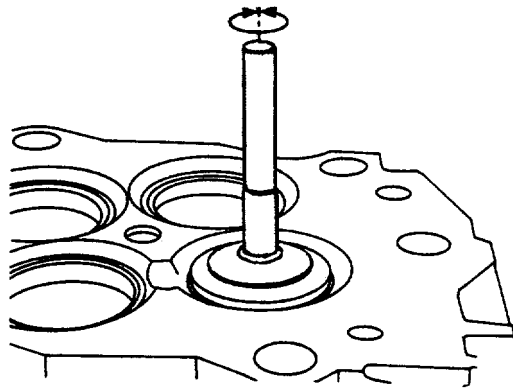

FIGURE 4-23. Valve Lapping.
- (2) Remove valve collets (2), spring retainer (4), spring (5), spring guide (3), and valve (6).
- (3) Repeat procedure for each of four valves.
- (4) Apply a thin and even coating of lapping paste on the valve.
- (5) Use lapping tool. Provide pressure in the center of the valve. Turn the valve backward and forward until the paste shows a continuous pattern on both the valve seat insert and the valve (FIG. 4-23).